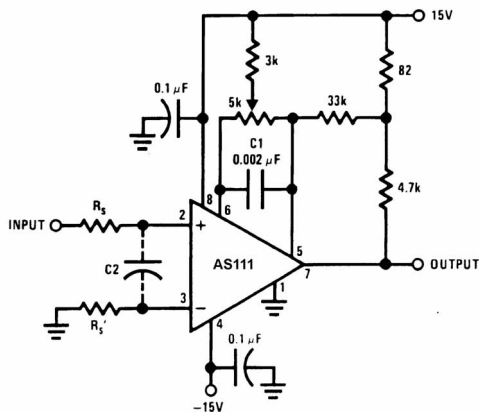

FIGURE 1. Improved Positive Feedback
However, when the input signal is a voltage ramp or a slow sine wave, or if the signal source impedance is high (1 k Ω to 100 k Ω), the comparator may burst into oscillation near the crossing-point. This is due to the high gain and wide bandwidth of comparators like the AS111. To avoid oscillation or instability in such a usage, several precautions are recommended, as shown in Figure 1 below.
should be shorted together. If they are connected to a trim-pot, a 0.01 μF capacitor C1 between pins 5 and 6 will minimize the susceptibility to AC coupling. A smaller capacitor is used if pin 5 is used for positive feedback as in Figure 1.
7. When both inputs of the AS111 are connected to active signals, or if a high-impedance signal is driving the positive input of the AS111 so that positive feedback would be disruptive, the circuit of Figure 1 is ideal. The positive feedback is to pin 5 (one of the offset adjustment pins). It is sufficient to cause 1 to 2 mV hysteresis and sharp transitions with input triangle waves from a few Hz to hundreds of kHz. The positive-feedback signal across the 82Ω resistor swings 240 mV below the positive supply. This signal is centered around the nominal voltage at pin 5, so this feedback does not add to the V_{OS} of the comparator. As much as 8 mV of V_{OS} can be trimmed out, using the $5\text{ k}\Omega$ pot and $3\text{ k}\Omega$ resistor as shown.